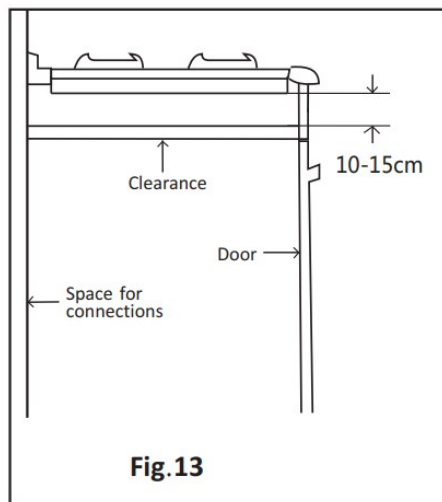

Fig.13
- The distance, between the bottom of the cooktop and the upper surface of any other appliance or internal shelf must be at least 10-15 cm (Fig.13 in page 12).